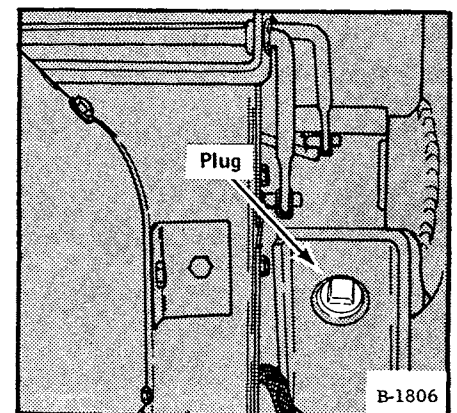

Fig. 2-7 Reservoir Vent Plug
- (1) Install pipe plugs in the reservoir vents (See Fig. 2-7).
- (2) Connect a pressure hose and regulator to the reservoir fill hole. Put 10 - 15 PSI (70 - 100 kPa) of pressure in the reservoir.